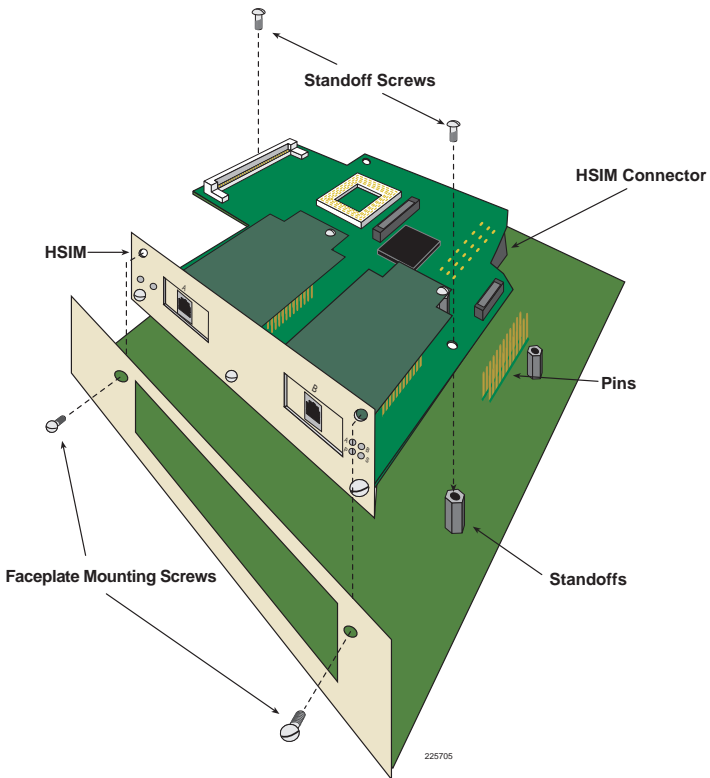

Figure 2-4 Installing the DELHF-UA
7. Refer to Figure 2-4 and place the HSIM behind the module faceplate.